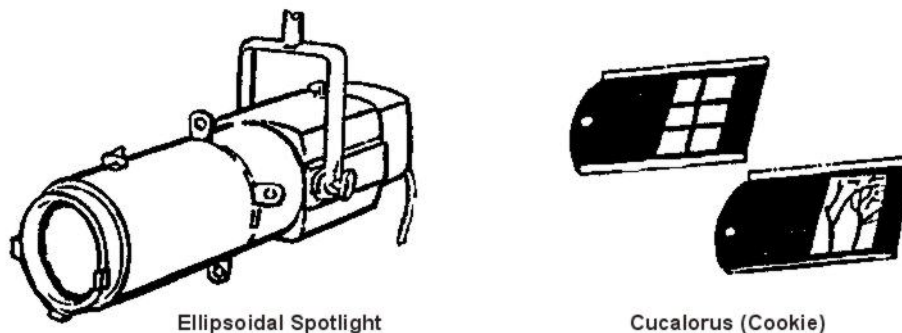

Figure I-12. The Ellipsoidal Spotlight
(2) The second type of spotlight we will discuss is the ellipsoidal spotlight (Figure I-12). This lighting instrument produces intense, sharply defined light beams.